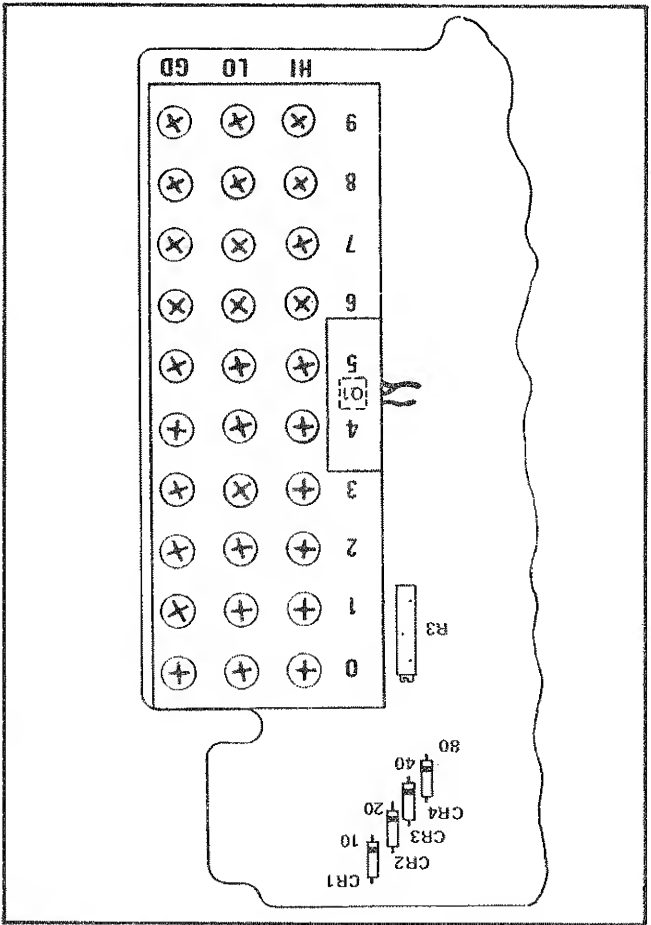

Figure 6-13. THERMOCOUPLE CONNECTIONS AND CALIBRATION ADJUSTMENT LOCATIONS
- b. (1) (2100A-03 or 2100A-06)
- b. Slide the lower pcb out of the 2150A case and make the thermocouple connections (see Figure 6-13).